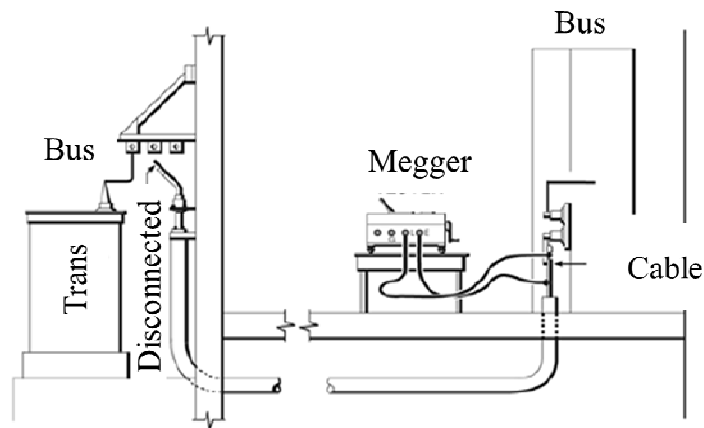

Figure 1: Insulation Resistance test of Cable
1. Open the cable ends from both side as shown in Fig. 1